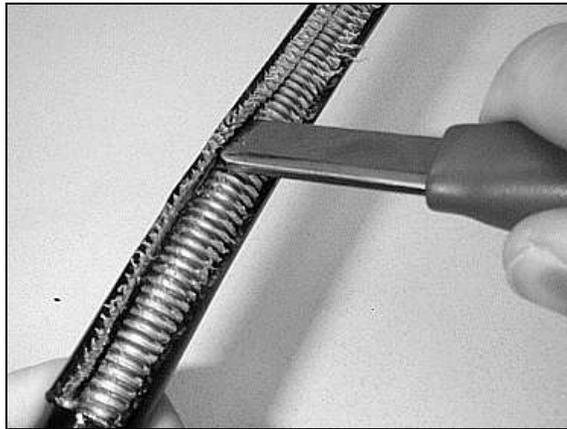

Figure 28 - Lift the armor at the overlap point.
6.9 Use a sheath knife to lift the armor overlap to ease the removal of the armor and outer sheath (Figure 28).